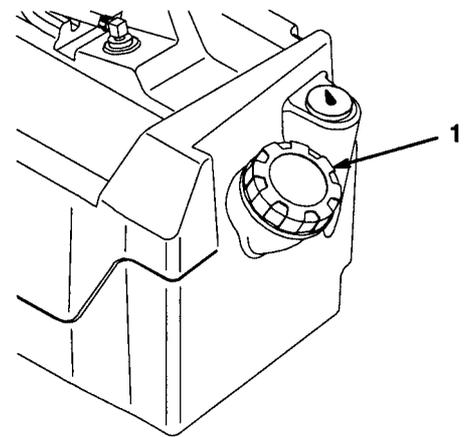

Figure 2
2. Clean the area around the fuel tank cap (Fig. 2).